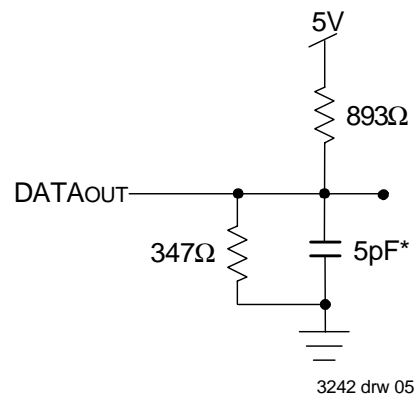

Figure 2. Output Test Load
- Transition is measured 0mV from Low or High-impedance voltage with the Output Test Load (Figure 2). This parameter is guaranteed by device characterization, but is not production tested.
1. Transition is measured 0mV from Low or High-impedance voltage with the Output Test Load (Figure 2).
3. Transition is measured 0mV from Low or High-impedance voltage with the Output Test Load (Figure 2).